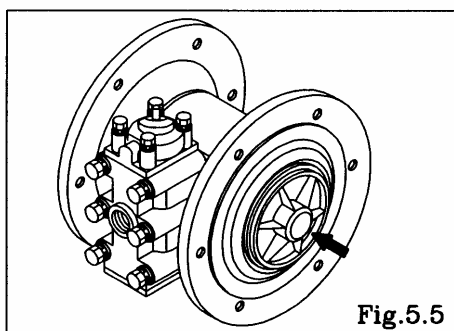

Fig.5.5
- Remove the center disk from one side using the Accessory tool (special tool: Part No. 771244). [Fig.5.5]